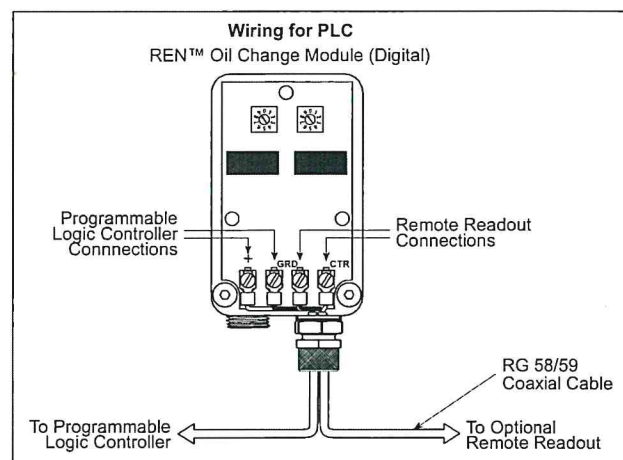

Figure 5- Typical Wiring to a PLC
**Step 3** - For connection to the PLC, the shield of the cable is connected as shown in Figure 5.